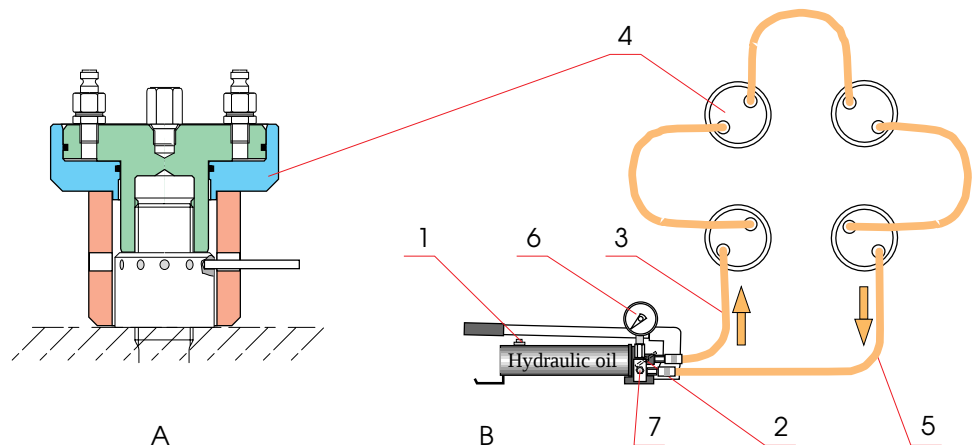

Fig 07-15
- During the filling of the container of the high pressure pump it is recommendable to couple the set according to scheme B, Fig 07-15. Before filling, open the release valve (2) and empty the cylinders (4) by pressing the piston and cylinder together. After that, drain the oil and re-fill through the filling plug (1).
- 1 Attach distance sleeves and hydraulic cylinders** according to Fig 07-15 A. Screw on cylinders by hand.
- 2 Connect the hoses to the pump and cylinders** according to scheme Fig 07-15 B. Open the release valve (2) and screw cylinders in clockwise direction to expel possible oil.